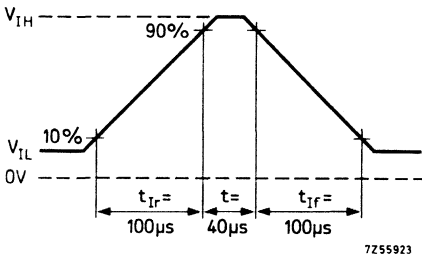
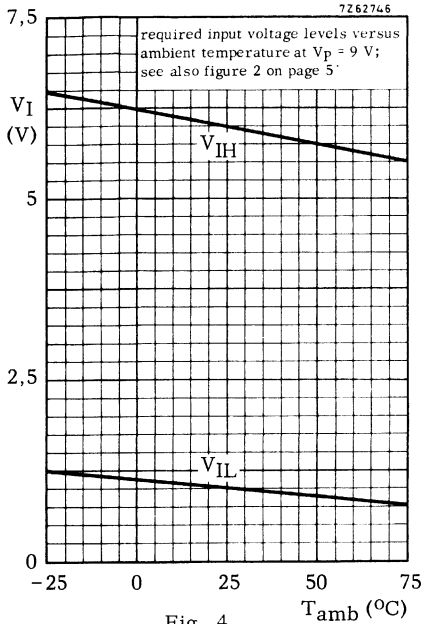

Fig. 2 Input voltage: V_I
Fig. 4
1) See also Fig. 2 on page 5 and Fig. 4 on page 6.